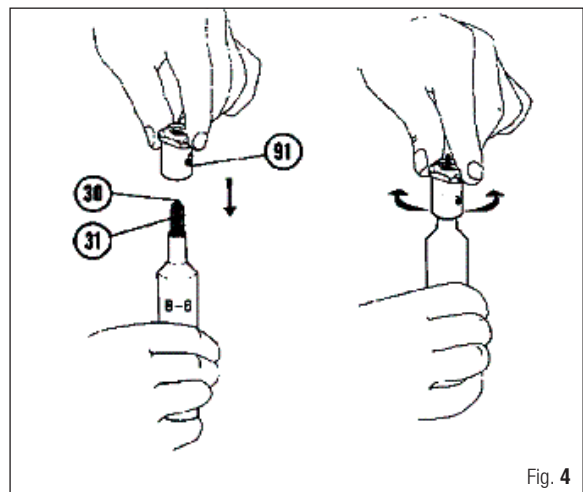

Fig. 4
29. Reassemble the poppet seat holder (92) on the 2nd stage poppet stem (30).
30. Reassemble the poppet seat (47) in the poppet seat holder (92).
31. Place the 2nd stage poppet assembly (30+47+92) together with its spring (31) on the special tool (B-6).
32. Pressing gently, correctly position the 2nd stage valve and its spring into the demand lever connector (91) (Fig. 4).
ROTATE THE SECOND STAGE CASE SLIGHTLY TO THE RIGHT AND LEFT TO OBTAIN CORRECT POSITIONING OF THE 2ND STAGE POPPET STEM (FIG. 4).